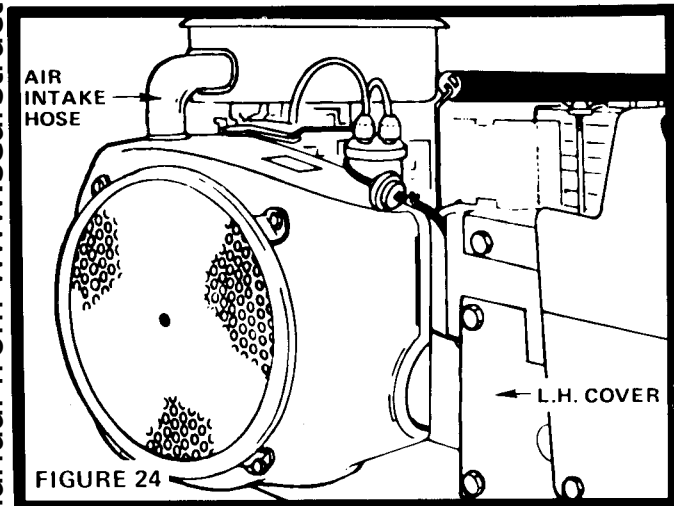

FIGURE 24
- Remove Air Intake Hose that connects to Blower Housing (Fig. 24). This provides an access to view Timing Mark.